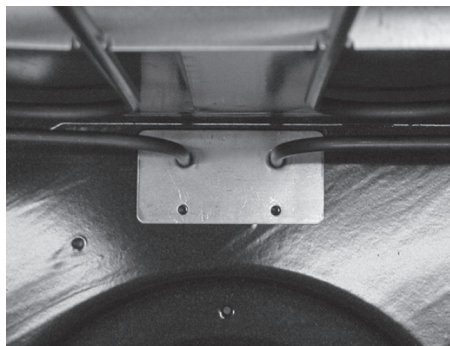

Fig. O-8
4. Remove the (2) screws holding the element from inside the oven (**Fig. O-8**).